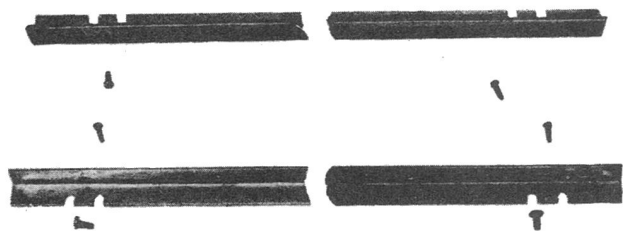

Fig. 12 — 54-type Bracket Assembly
5.04 The 54-type bracket assemblies may be used for side-by-side flush mountings (Fig. 12). Each assembly consists of two single-type brackets and the necessary screws for fastening the brackets to the unit and keys and for securing the assembly to the console. The 54A bracket has a capacity of three keys or one dial unit and two keys. It also provides for mounting a buzzer bracket, if required. The 54B bracket assembly has a capacity of seven keys or one dial unit and six keys. The 54C bracket has a capacity of one key and one apparatus unit.